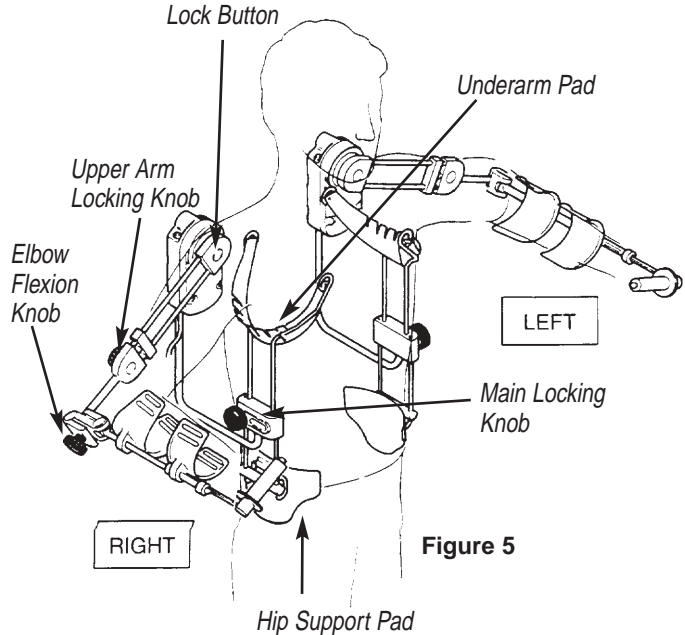

Figure 5
- The S3S can be fitted to the left or right side of the body as treatment requires (Figure 5). To change the Device from the left or right shoulder application, depress the Lock Button on the inside of the Shoulder Actuator and rotate the Arm Assembly 180° until it locks in place.